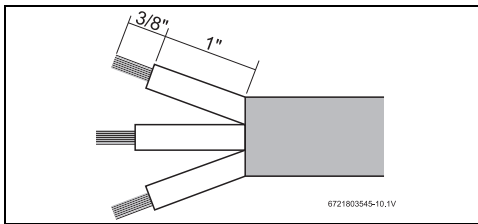

Fig. 5
- ▶ Strip back the outer insulation on the power wires about 1 3/8" (35mm) and the conductor 3/8" (9.5mm) (Fig. 5).